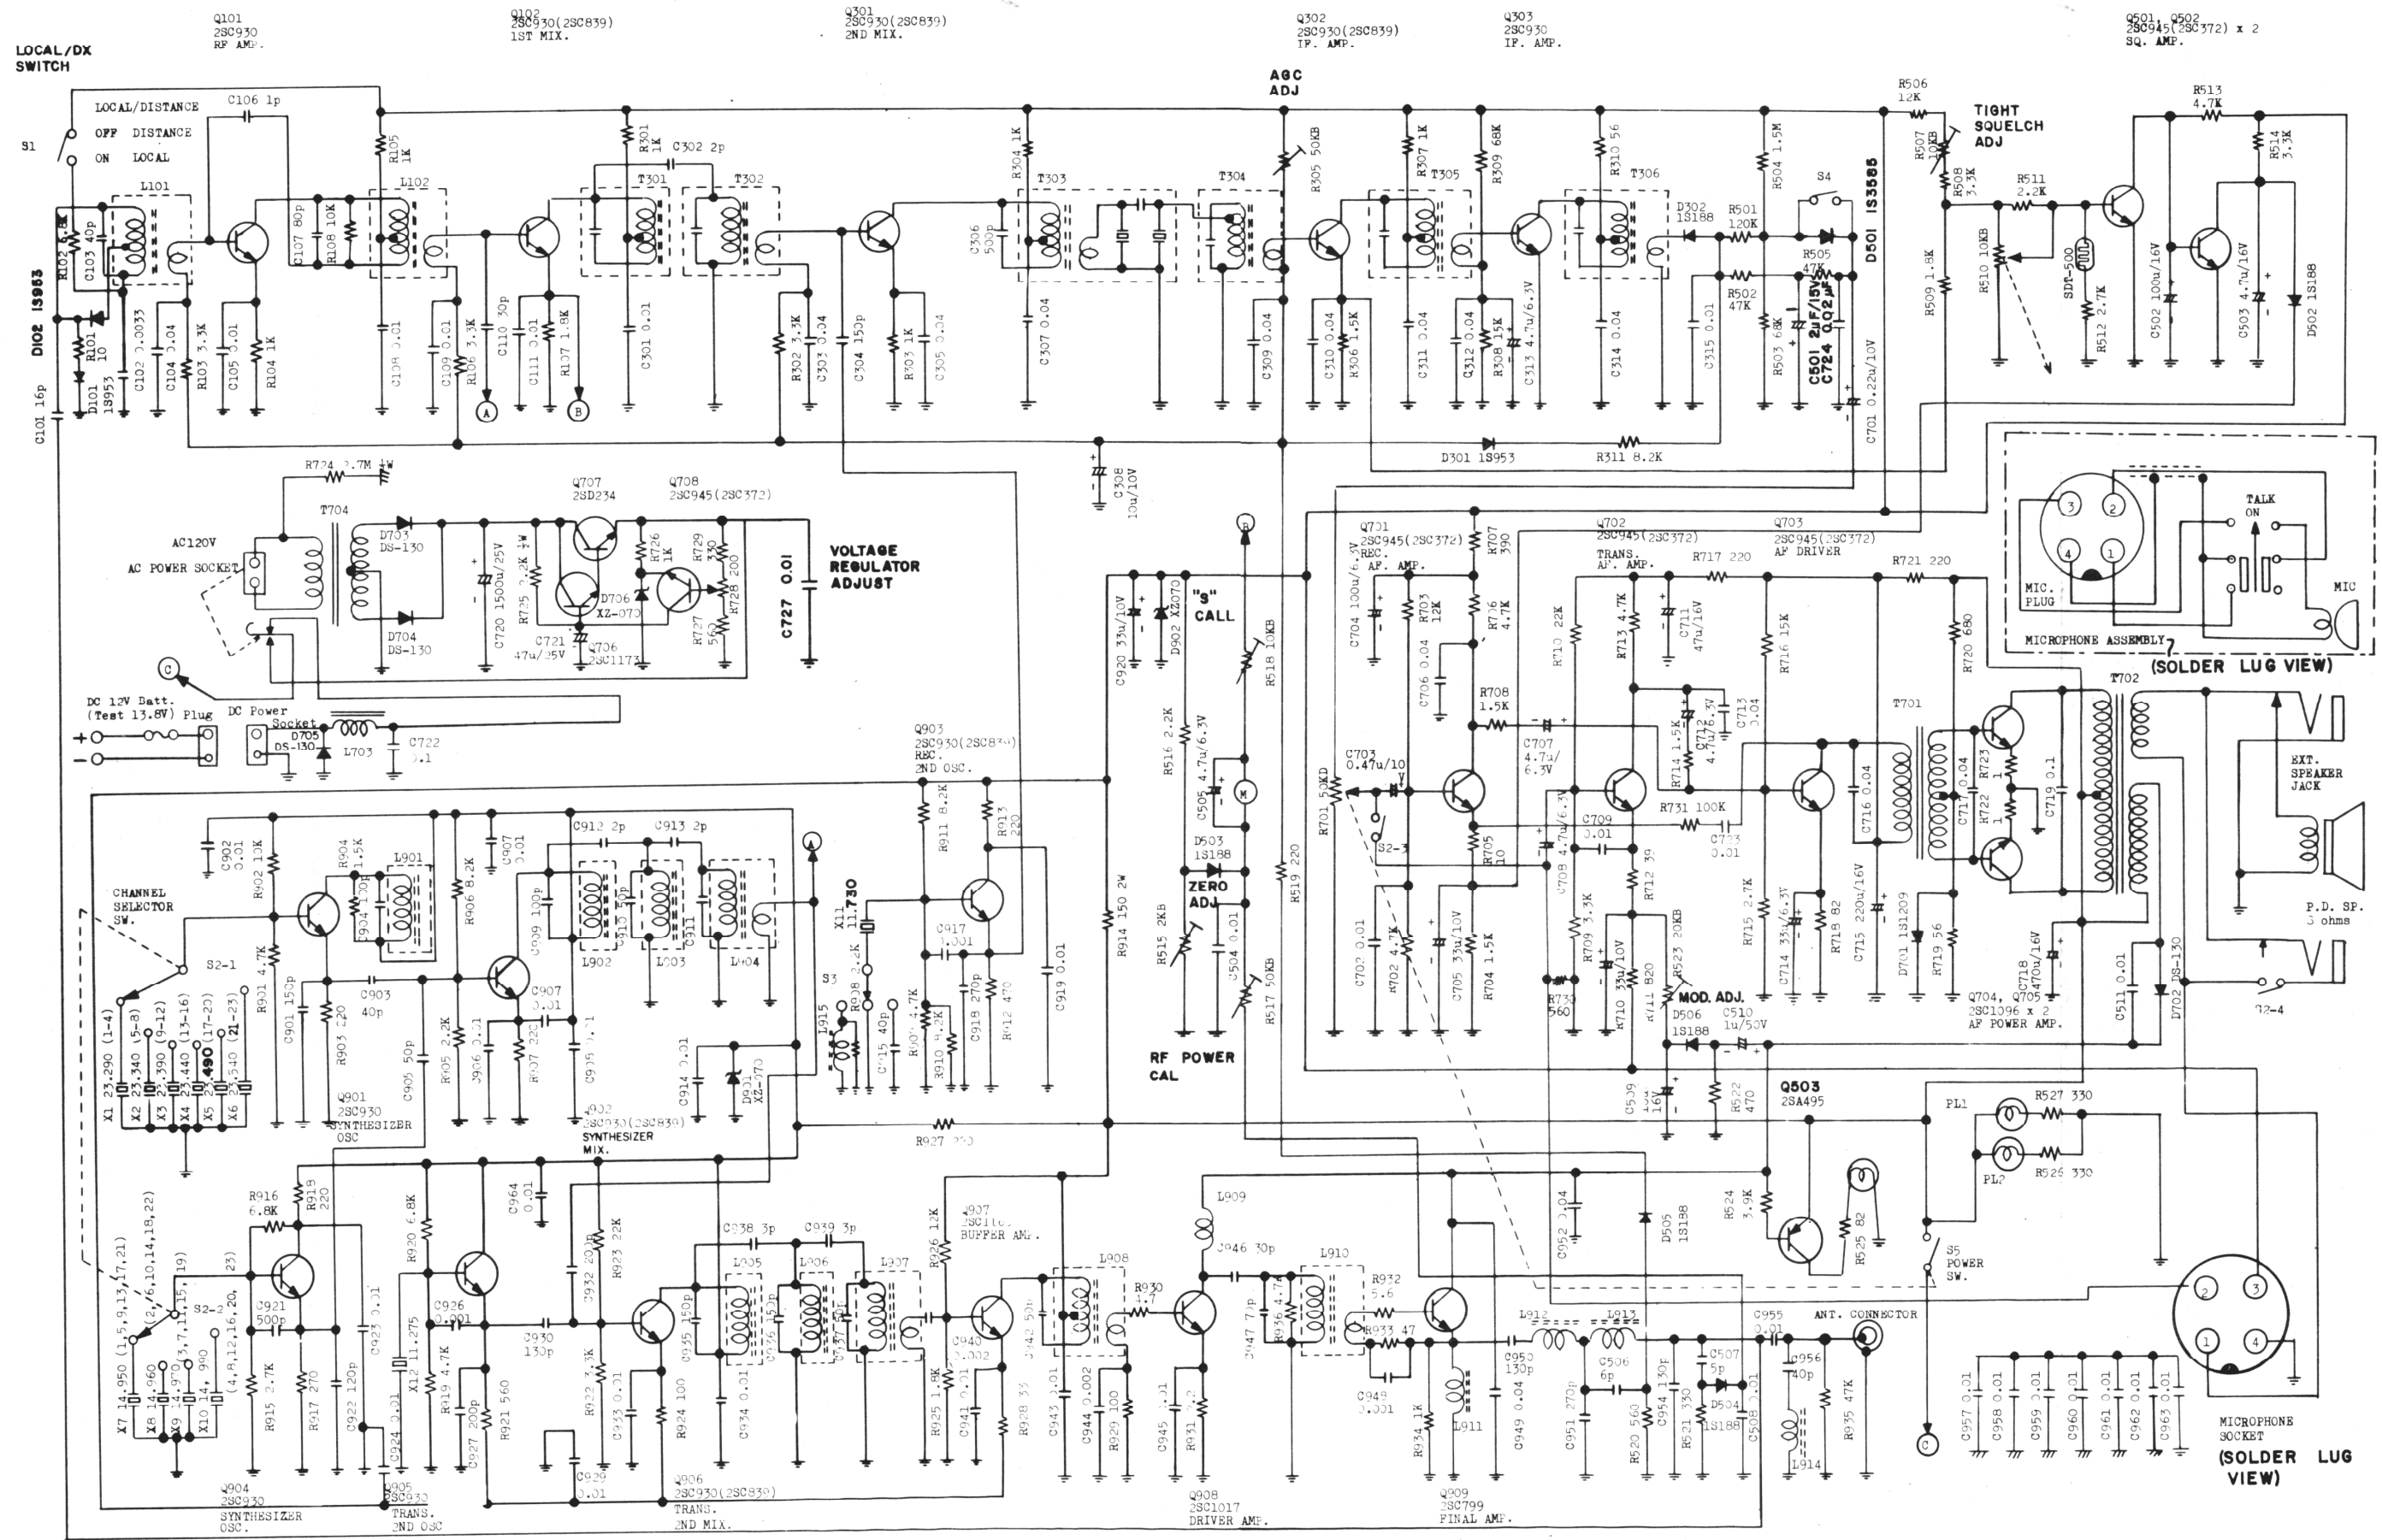

FIGURE 7, SCHEMATIC DIAGRAM, ISSUE B
- Figure 7, Schematic Diagrams